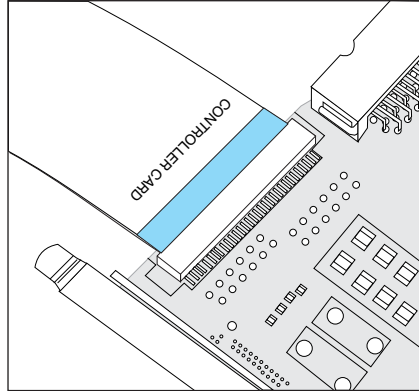
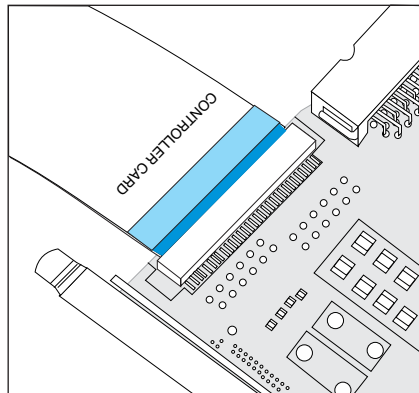

Figure 90. Service Controller card cable installed properly
Figure 91. Service Controller card cable not properly seated
- b. Before you reconnect the ribbon cable, ensure that its contacts are downward. **CAREFULLY** install the cable to the rear of the service controller being sure to install the cable straight in with no rocking or twisting during installation. Be sure to verify that the dark blue line on the cable connector ends is not visible. This ensures that the cable is fully seated. See Figure 90 on page 175 and Figure 91 on page 175.
the cable connector ends is not visible. This ensures that it is fully seated. See Figure 90 on page 175 and Figure 91 on page 175.